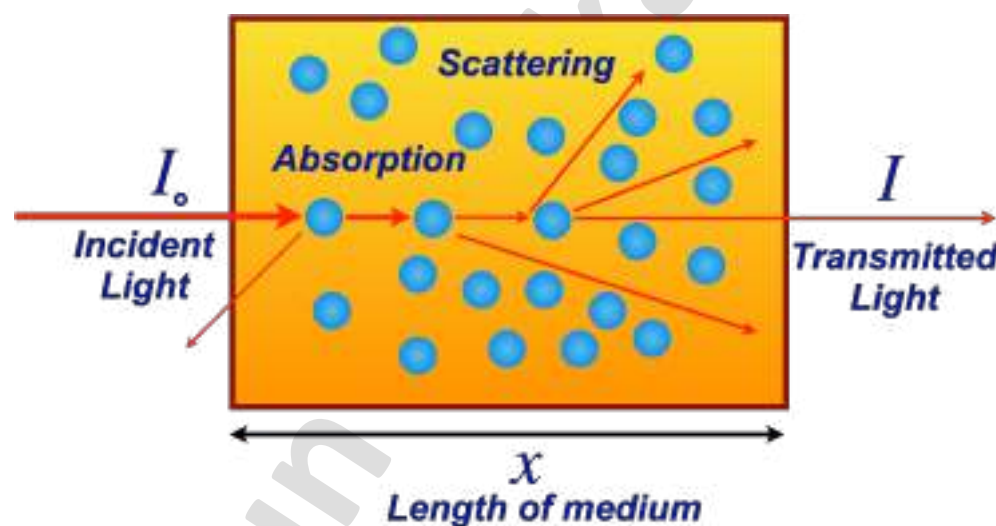

Fig. 13: Incident radiation I_0 passes through a medium of thickness x .
- For nanoparticles much smaller than the incident wavelength (λ), the quasi-static approximation of Mie Theory simplifies to the well-known plasmon resonance condition, leading to localized surface plasmon resonance (LSPR) in metallic nanoparticles. A beam of electromagnetic radiation of intensity I_0 and wavelength λ passes through a medium having dielectric constant E_m as shown in Fig. 13.